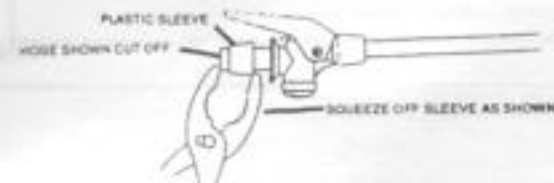

FIG. 9
- If leakage is due to cracked or damaged hose, cut off behind sleeve, remove sleeve with pliers as shown then cut remaining hose off valve head hose fitting. See FIG. 9